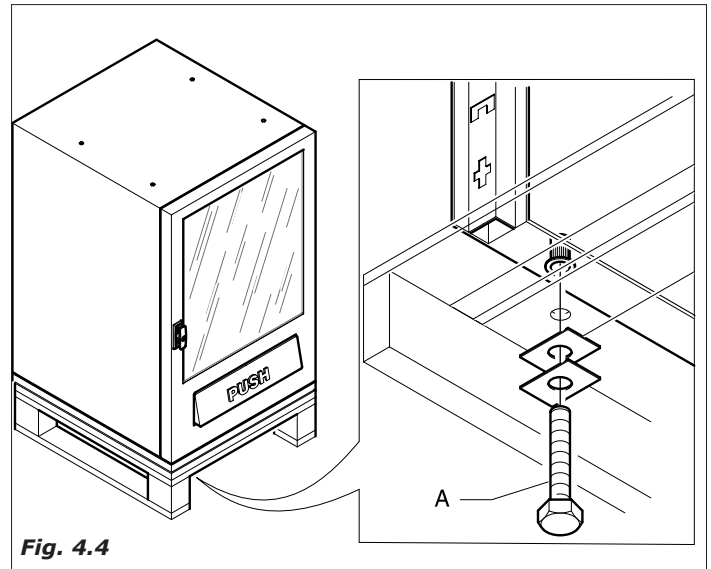

Fig. 4.4
- Remove the distributor from transport pallet, unscrewing the screws (A) that block the fixing cross staff heads to the pallet (Fig.4.4).